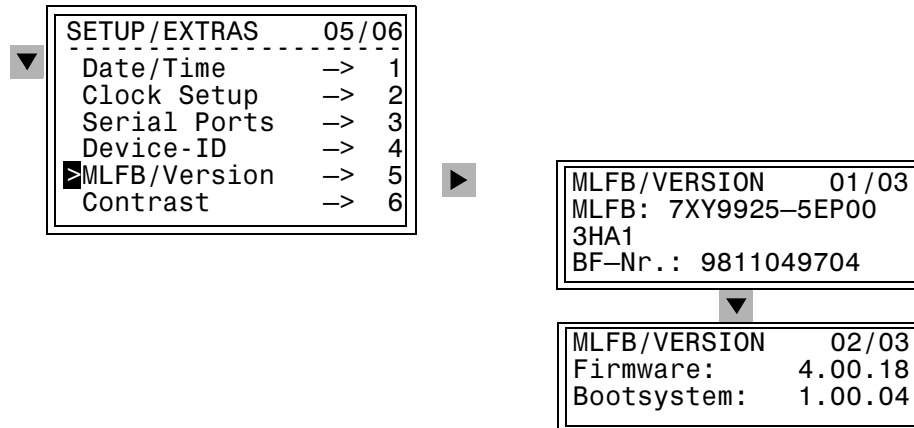

Figure 3-2 Display of device-specific data (example)
- ❑ Using the ▼ key, select the menu item **Setup/Extras** and switch to the selection **SETUP/EXTRAS** using the ▶ key. See Figure 3-2.